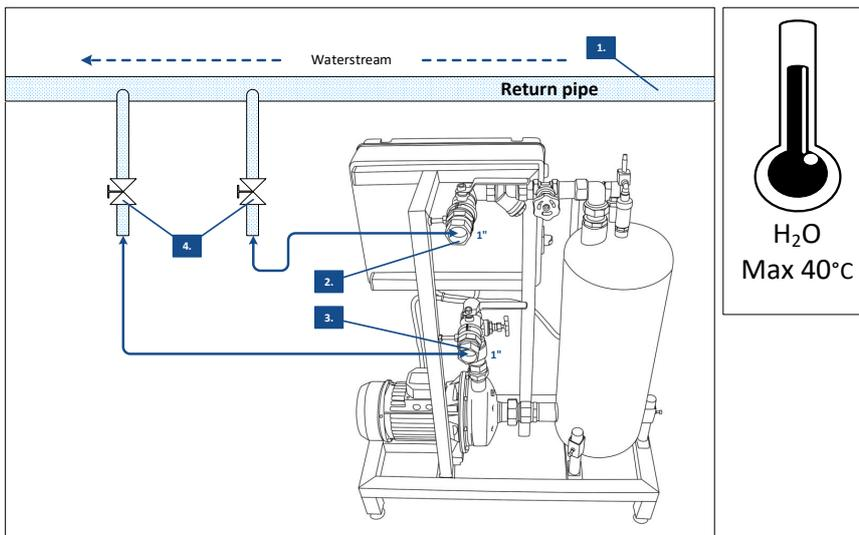

Figure 4. Connection to return pipe
- Connect the inlet (Figure 4. No. 2) to the return pipes of the central heating system (Figure 4. No. 1). The size of the inlet is usually 1" BSP internal thread.
- Connect the outlet (Figure 4. No. 3) 1 metre further than the inlet to the return pipe. The size of the outlet connection is usually 1" BSP internal thread.
- Mount ball valves (Figure 4. No. 4) in the inlet and outlet pipes on the side of the return pipe of the greenhouse heating system. These can be put to use in an emergency to cut off the system.